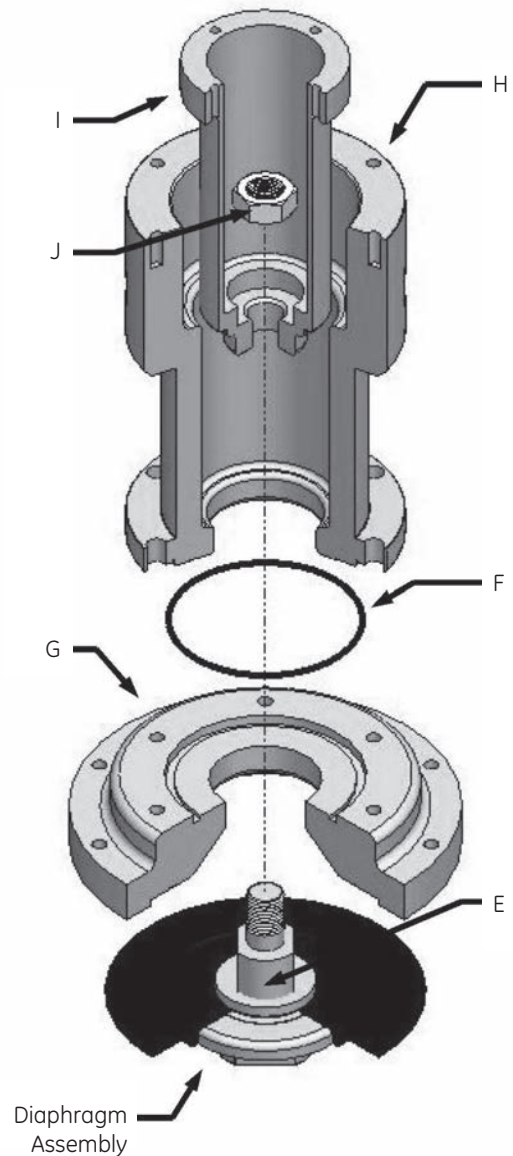

Figure 25 – 175-CH Cartridge Assembly
- Step 1:** Insert the 145 O-ring (F) into the cartridge spacer (G).
- Step 2:** Place the cartridge spacer (G) between the diaphragm assembly and spring chamber (H) as shown in Figure 25.
- Step 3:** Slide the inner tube (I) through the spring chamber (H).
- Step 4:** Attach the thread extension (E) to the inner tube (I) using the 1/2 in. - 20 in. SS jam nut (J).
- Step 5:** Torque the jam nut (J) to 100 to 110 in-lbs.